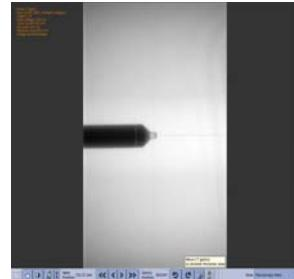

Figure 7-45
- a. Put a point source at the centre of the FOV. Use the Co-57 point source specified in the site preparation guide if available. Otherwise, use a Tc-99m point source of about 0.75mCi(0.1mCi~1.5mCi). The point source shall have a diameter of no more than 3mm. The stronger the activity in the point source, the quicker the scan. For positioning the source, use the calibration jig and point source holder, if available. If CT is available, use CT fluoro to help. See the following screenshot of CT fluoro. Click the "LR" button to check if the source is centered in Y. Click the "AP" button to check if the source is centered in X. (Figure 7-45).